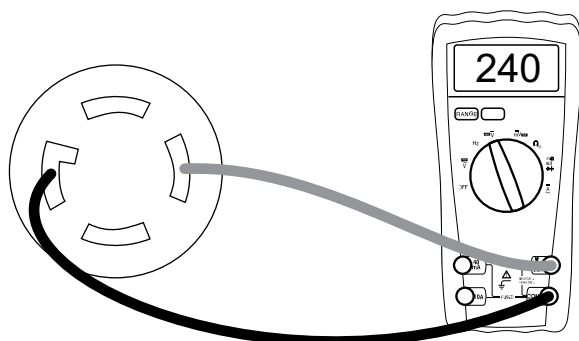

Figure 3-9. DMM Test Leads Connected to a 240 VAC Receptacle
5. See Figure 3-9. Connect DMM across a 240 VAC receptacle.